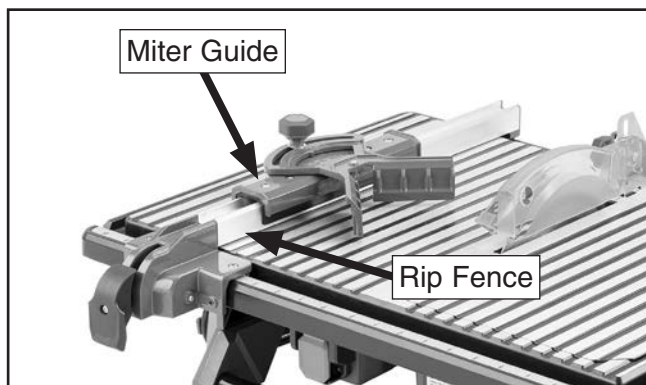

Figure 11. Miter guide attached to rip fence.
10. Push miter guide onto rip fence with miter angle facing blade (see **Figure 11**).